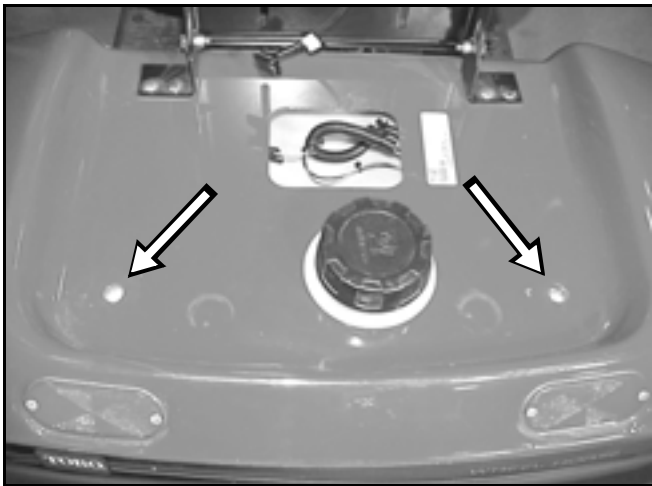

Figure 50
3. Remove the two rear carriage bolts, washers, and nuts located in the rear of the fender assembly (Figure 50).